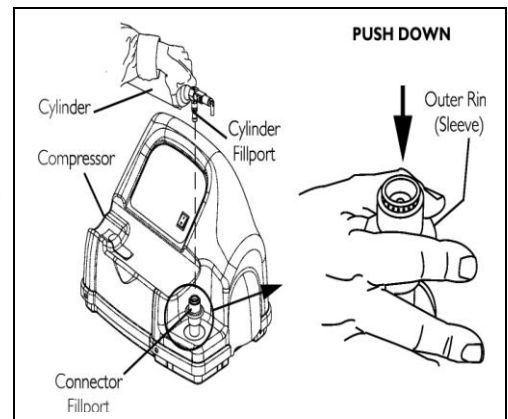

Figure 3
1. Press the compressor power switch to the Off (O) position.
5. When the cylinder fillport is disconnected from the connector fillport, release the outer ring (sleeve) of the connector fillport and use two hands to remove the cylinder from the compressor cradle (Figure 3).